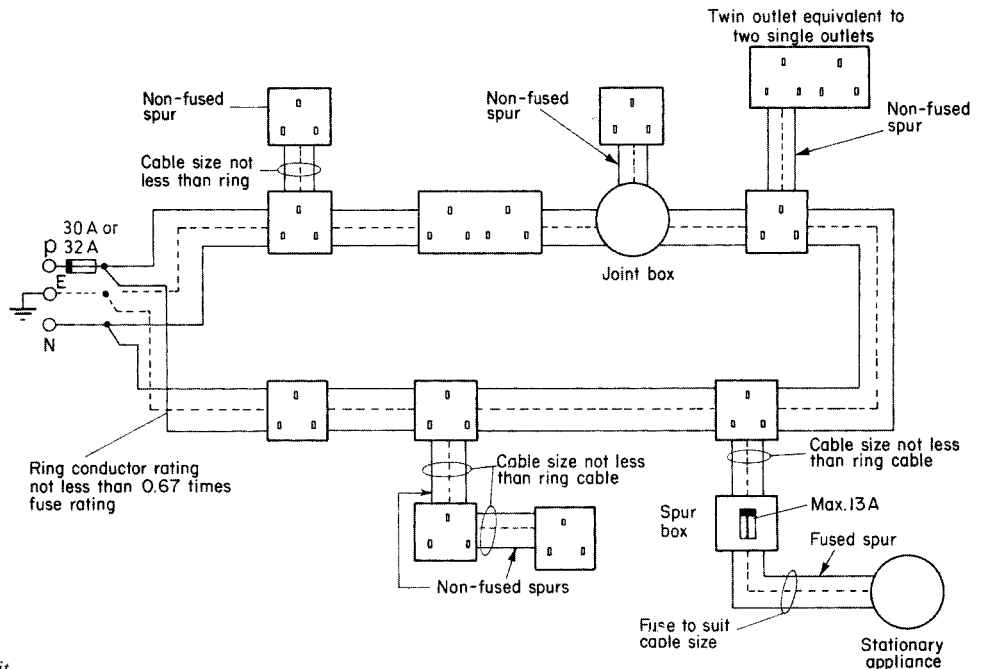

Fig. 15.8 Ring final circuit
- 2 The number of non-fused spurs must not exceed the total number of points on the ring. Fig. 15.8 shows seven points on the ring and five spurs.